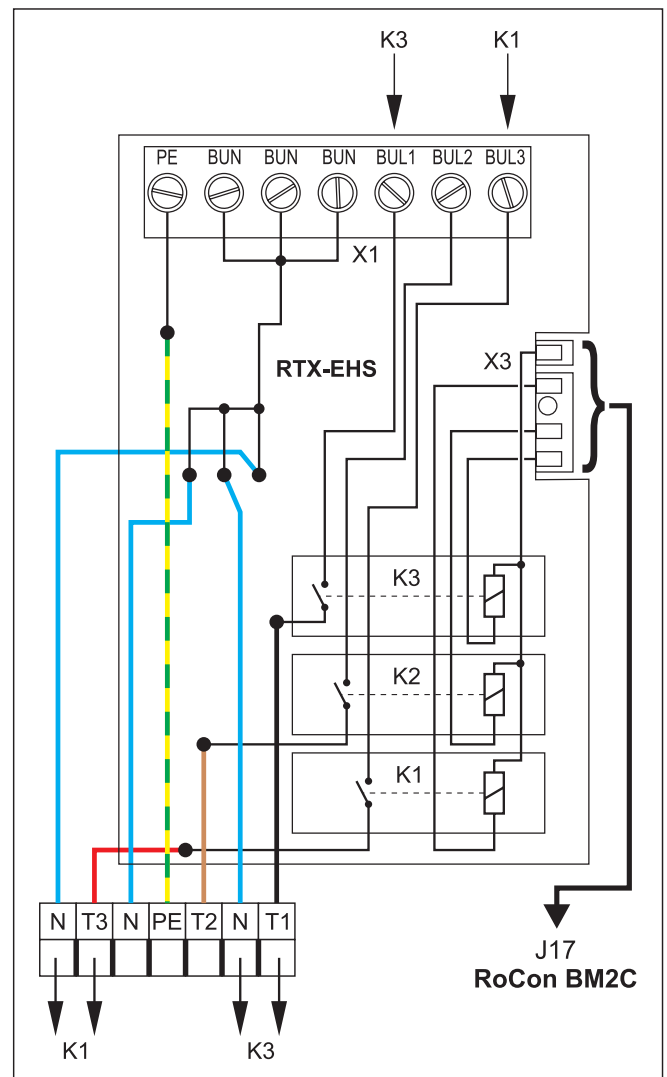

Fig. 3-41 Connection on the RTX-EHS printed circuit board
The external heat generator request is connected on PCB RTX-EHS (see Fig. 3-41) via a relay. Electrical connection to the indoor unit is possible as follows:
- 3 Make suitable connections on the RTX-EHS PCB of the connection set (see Fig. 3-41).